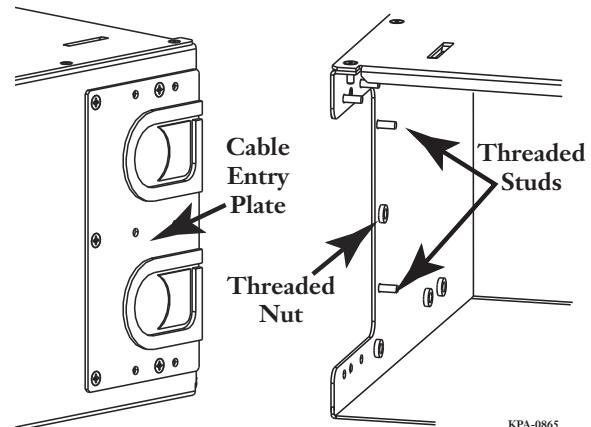

Figure 2
- Step 2:** Remove each of the cable entry plates by removing the five screws in each plate using a Phillips-head screwdriver and set all parts aside (Figure 2).
- Step 5:** Reinstall the cable entry plates using four of the previously removed screws on each side of the housing (Figure 2).